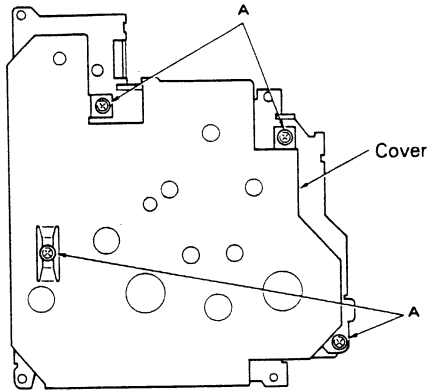

Fig. 1
1. Remove the four screws labeled "A" in Figure 1 and remove cover.